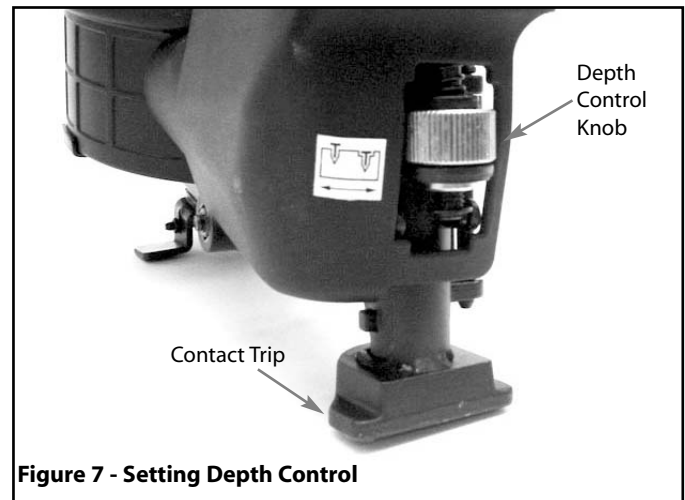

Figure 7 - Setting Depth Control
Refer to Figures 7 through 9 (page 5).
- The air tool is equipped with a contact trip safety mechanism that disables tool unless contact trip (Figure 7) is pushed against work. To drive a fastener hold body firmly and press contact trip on workpiece where fastener is to be applied. Pull trigger to drive fastener into workpiece.
The contact trip may be adjusted up or down to vary the driven depth of the fastener. To adjust, rotate depth control knob (see Figure 7) to raise or lower contact trip to desired setting.